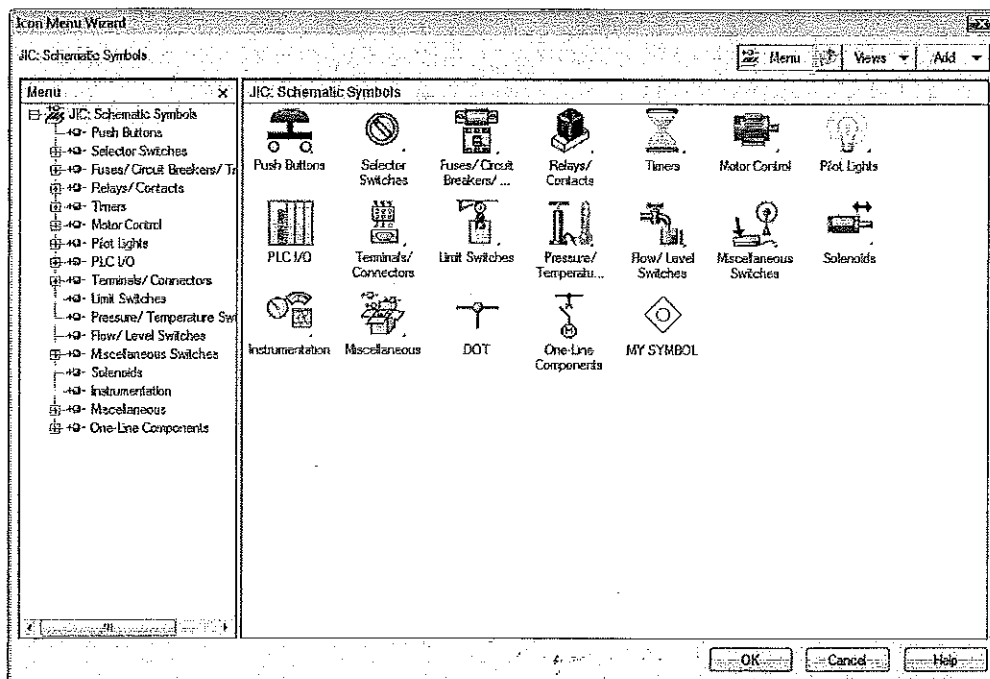

Figure 13-43 The Icon Menu Wizard dialog box showing the icon of the symbol
10. Choose the **OK** button in the **Add Icon - Component** dialog box; the icon is added to the **Icon Menu Wizard** dialog box, as shown in Figure 13-43.